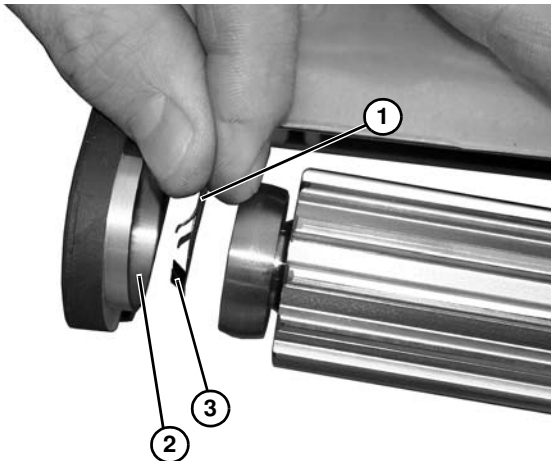

Figure 70
2. Add spring washer (**Figure 70, item 1**) to head plate spindle bore (**Figure 70, item 2**) opposite motor drive side with fingers (**Figure 70, item 3**) toward head plate spindle bore.